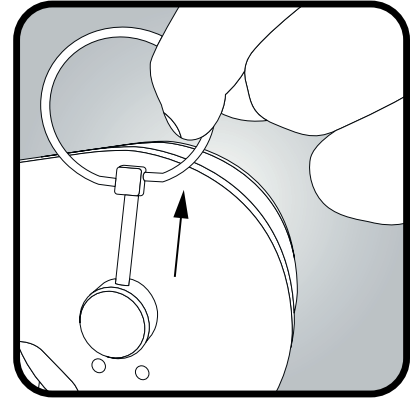
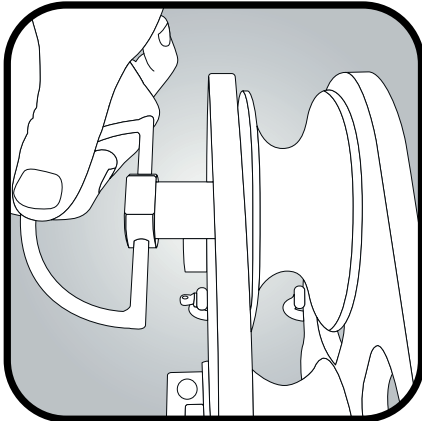
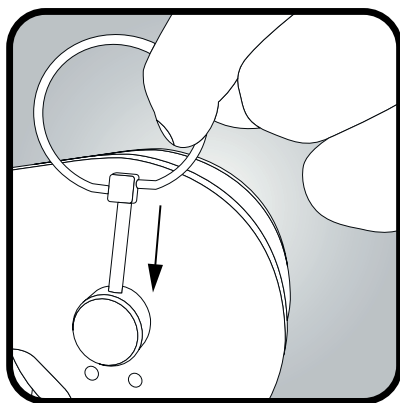

Figure 9A
Figure 9B
Figure 9D
1. Remove both outer rollers by lifting the linch pin out of the roller axle pin (Figure 9A) and removing the axle pin (Figure 9B). Take care to hold the roller during removal.
3. Replace the two outer rollers by placing them on top of the rope and inserting the roller axle pin through the rollers. (See Figure 9B). Secure the roller axle pins with the Linch Pins (See Figure 9D).